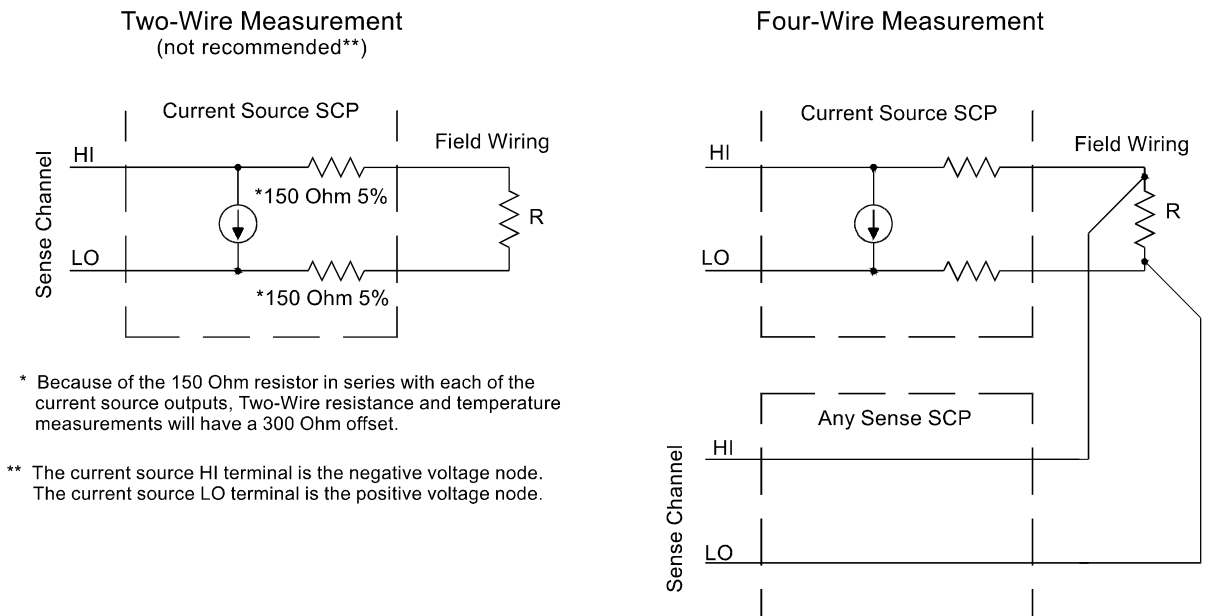

Figure 3-4. Resistance Measurement Sensing
Resistance measurements assume that there is at least one Current Source SCP installed (eight current sources per SCP). See Figure 3-4
- The *ch_list* parameter specifies which channel(s) to link to the resistance EU conversion. These channels will sense the voltage across the unknown resistance. Each can be a Current Source SCP channel (a two-wire resistance measurement) or a sense channel separate from the Current Source SCP channel (a four-wire resistance measurement). See Figure 3-4 for diagrams of these measurement connections.
Temperature measurements using resistance type sensors involve all the same considerations as resistance measurements discussed in the previous section. See the discussion of Figure 3-4 in "Linking Resistance Measurements".